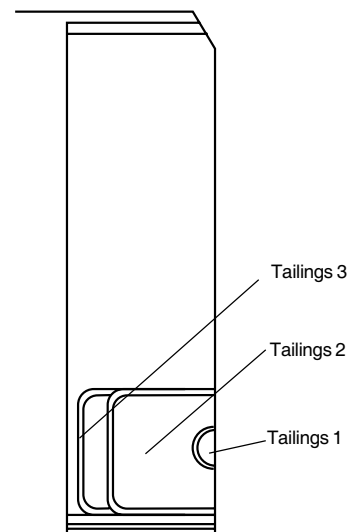
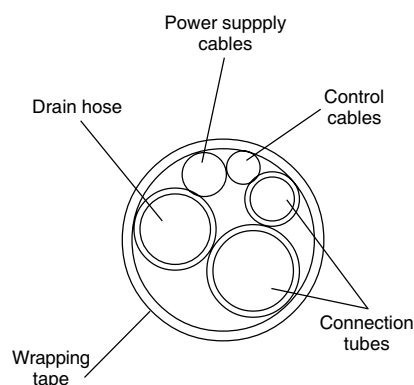

Figure 7
Figure 8
1. The piping routing of the indoor unit see Figure 6 (a) (b), when routing the piping and wiring from the left or right side of the indoor unit, cut off the tailings from the chassis in necessary (shown in Figure 7)
- ① Cut off the tailings 1 when routing the wiring only.
- ② Cut off the tailings 1 and tailings 2 when routing both the wiring and piping.
2. Wrap the piping and wiring, and pull them through the cut-off tailings hole. (shown in Figure 8)